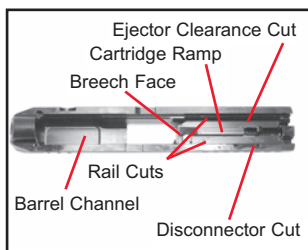

Figure 26
2. Spray the Slide with Rem Action Cleaner, including the breech face, barrel channel, rail cuts, disconnect cut, and ejector clearance cut. See Figure 26.